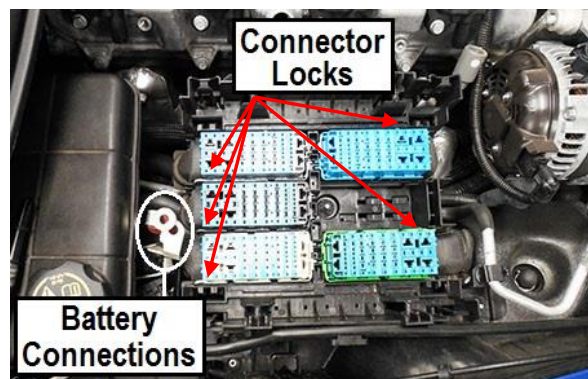

Figure 2
- C) Unlock the connectors from the tray by pushing the lock tab out and sliding the connector away from the center of the tray. Remove the (x3) 10mm nuts securing the connector tray to the fender well (**Figure 2**).
- D) Remove the connector tray and set aside (**Figure 2**).